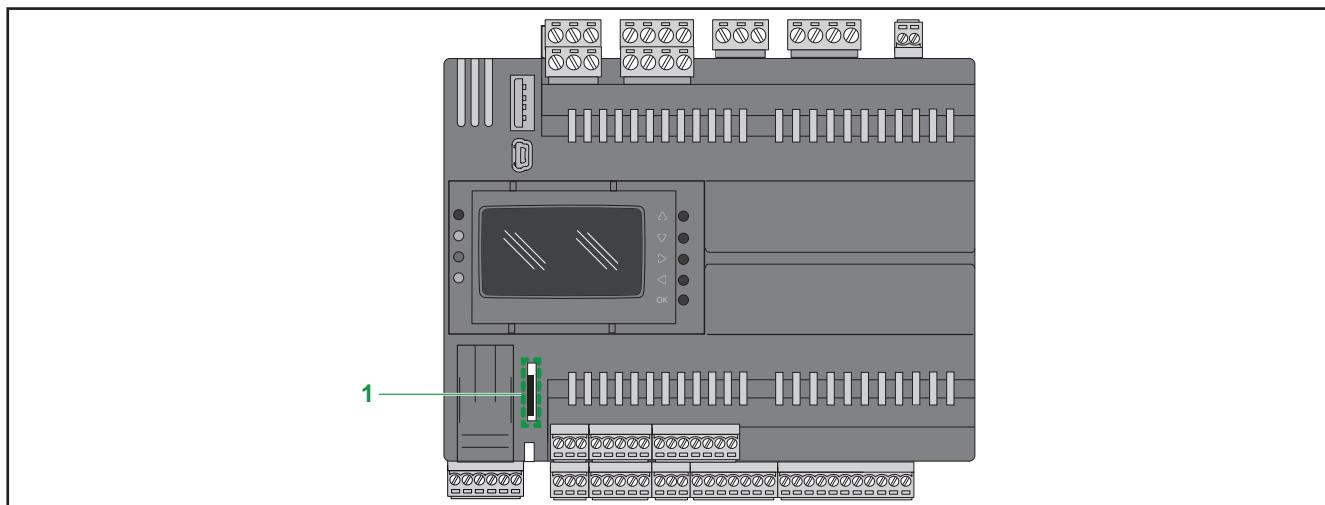

Fig. 51. EWCM 9000 PRO (HF): Memory card slot
EWCM 9000 PRO (HF) CO₂ compressor rack controllers are equipped with a memory card slot (see 1 in Fig. 51 on page 76) for micro SD cards, used in some cases to expand the internal memory.